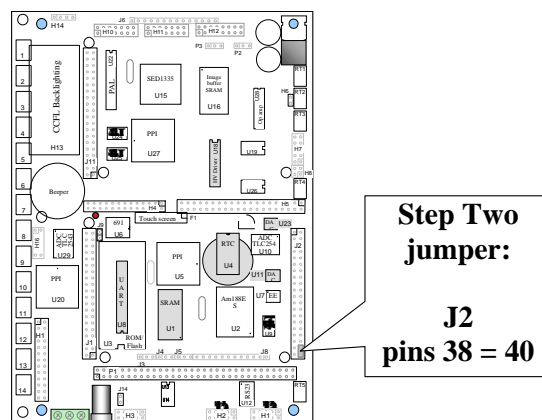

Figure 1.5 Location of Step 2 jumper on the SmartLCD
- Set the jumper on J2 pins 38-40 (Figure 1.5).